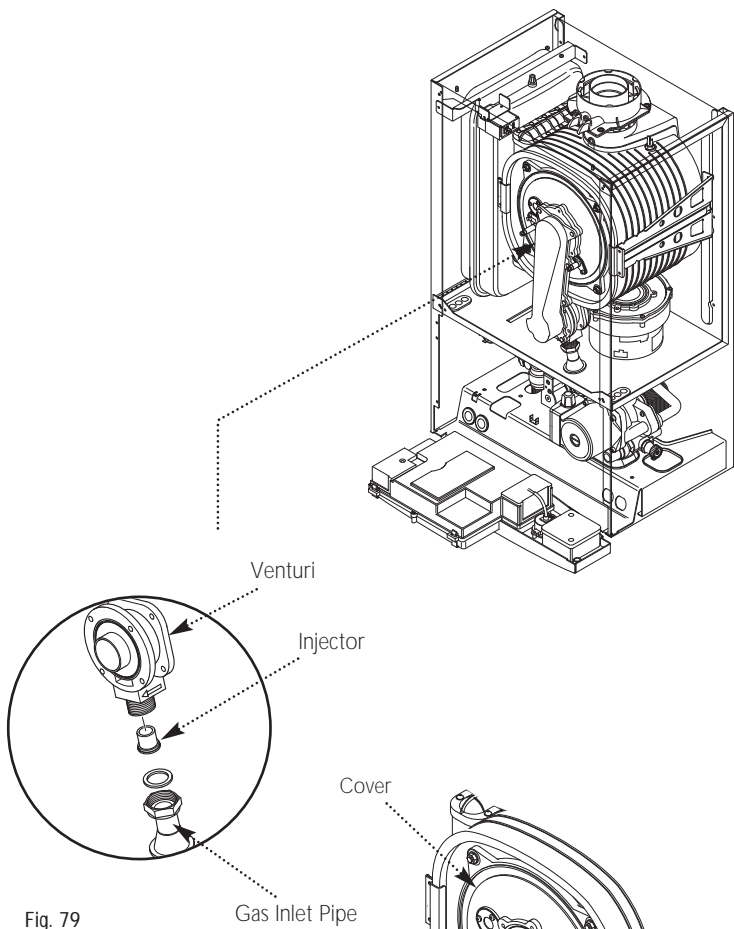

Fig. 79
14.3 Fan (Fig. 79)
1. Undo the nut on the gas inlet pipe to the venturi (Fig. 79) and pull the sensing pipe off the fan.